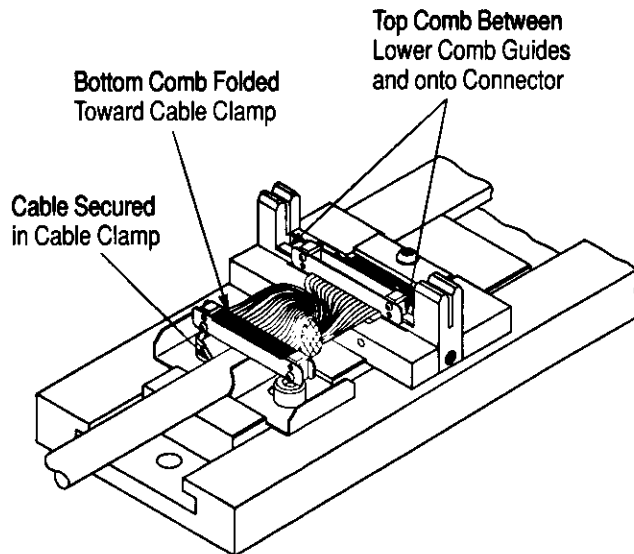

Figure 8
3. Place the top comb (the comb with the shorter wires) between the lower comb guides and onto the connector with the laced wires facing the connector. See Figure 8.
4. Push the cable into the cable clamp until it is secure. Then carefully fold the bottom comb and its wires toward the cable clamp. See Figure 8.